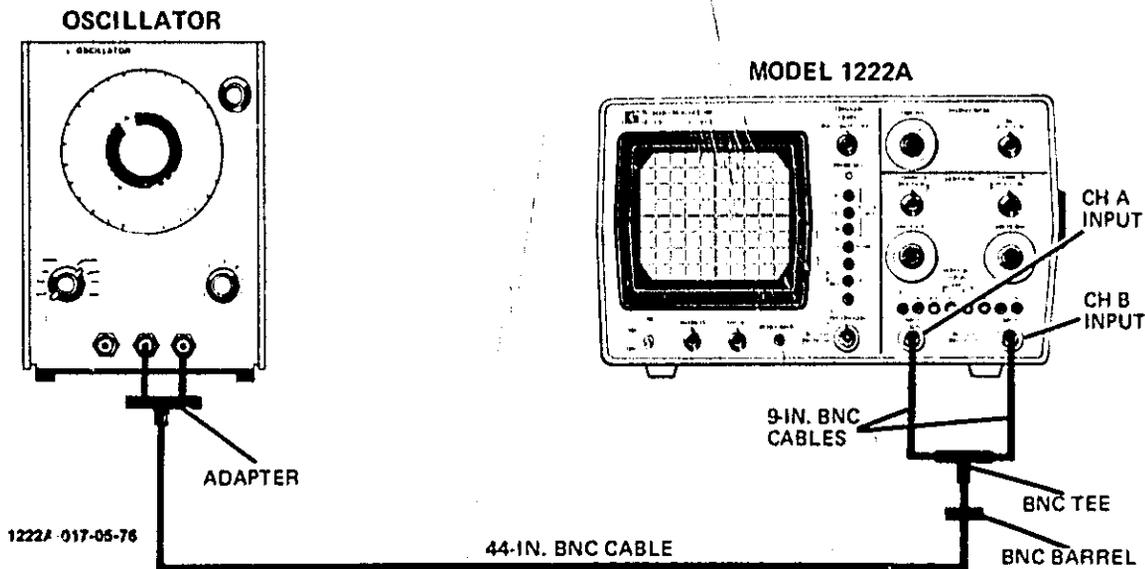

Figure 5-8. X-Y Phase Test Setup
- a. Connect equipment as shown in figure 5-8.